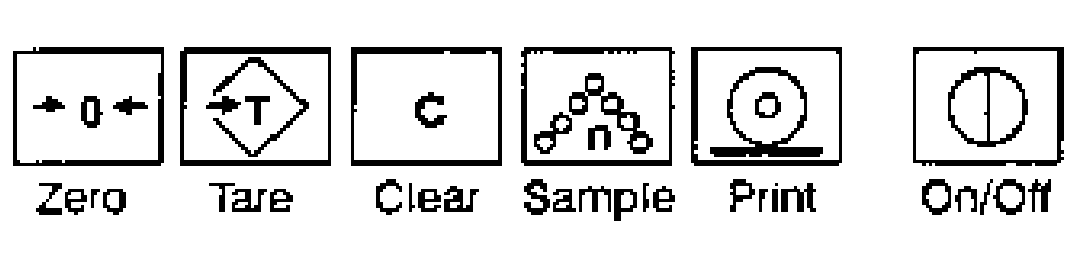

Figure 2
The keyboard used on the Model 2038 is a six position membrane keyboard utilizing graphic symbols. An illustration of the keyboard is shown in Figure 2. Refer to Section 4.2.4 for descriptions of keys.
2. Press the white "ON/OFF" key (located on the lower right side of the display assembly) to turn the scale power ON. (Refer to Figure 2)